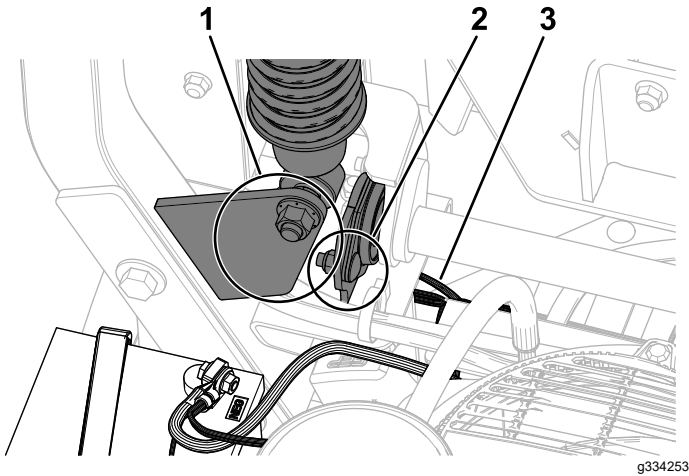

Figure 58
**Note:** For MyRide machines, ensure that the ground cable does not rub against the trailing arm or lower shock mount (Figure 58).